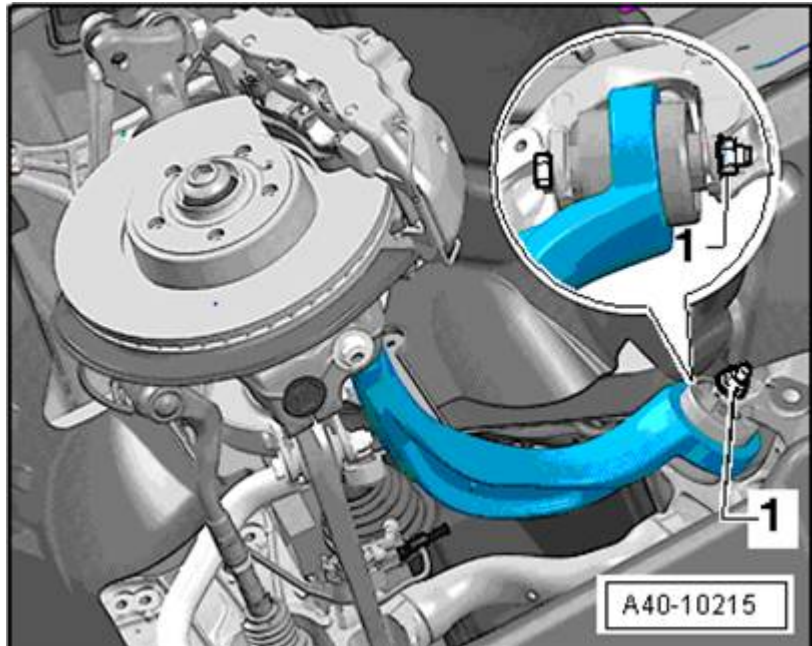

Figure 1. Lower guide link
2. After the noise is confirmed to be from the guide links, replace both left and right lower guide links (Figure 1) according to the instructions in *Elsa >> Repair Manual >> Chassis >> Suspension, Wheel, Steering >> Front Suspension >> Removal and Installation >> Guide Link*.